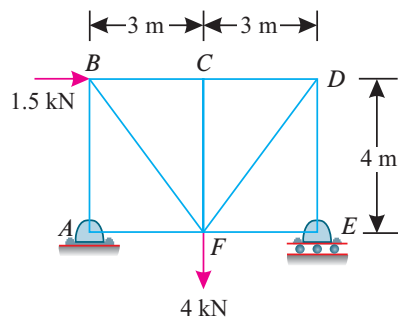

Fig. 14.55.
1. A truss shown in Fig. 14.55 is subjected to two point loads at  $B$  and  $F$ . Find the forces in all the members of the truss and tabulate the results.